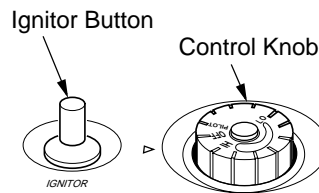

Figure 22 - Control Knob In The OFF Position
3. Turn control knob clockwise  to the OFF position (see Figure 22).
4. Wait five (5) minutes to clear out any gas. Then smell for gas, including near the floor. If you smell gas, STOP! Follow "B" in the safety information, page 13, column 2. If you don't smell gas, go to the next step.
5. Turn control knob counterclockwise  to the PILOT position. Press in control knob for five (5) seconds (see Figure 22).